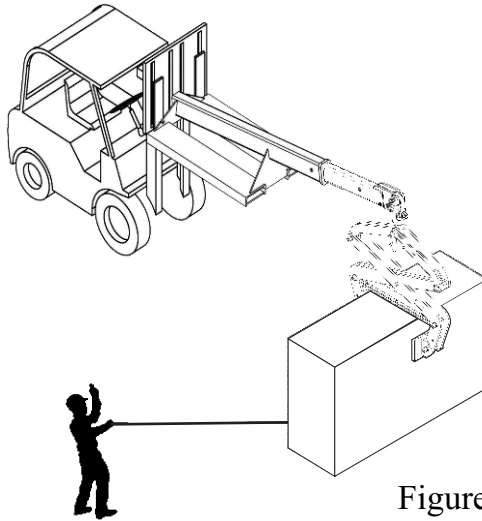

Figure 3.1
Step 3: Move the stone slab (Figure 3.1).